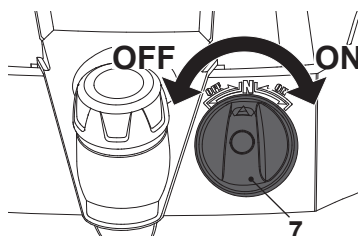

Fig. 7
1. Turn the on/off switch (7) clockwise to switch the product on (Fig. 7).
2. Turn the on/off switch (7) anti-clockwise to switch the product off.